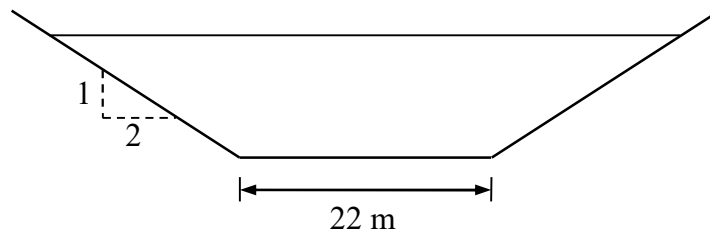

Fig. 2
- (d) A canal has a total length of 1270 km and a uniform bed elevation drop of 100 m from the upstream to the downstream ends. The cross-sectional shape is trapezoidal, with a base width of 22 m and side slope of 1:2, as shown in Fig. 2. The Manning roughness coefficient is estimated to be $0.015 \text{ s m}^{-1/3}$. When the water depth is 8 m: